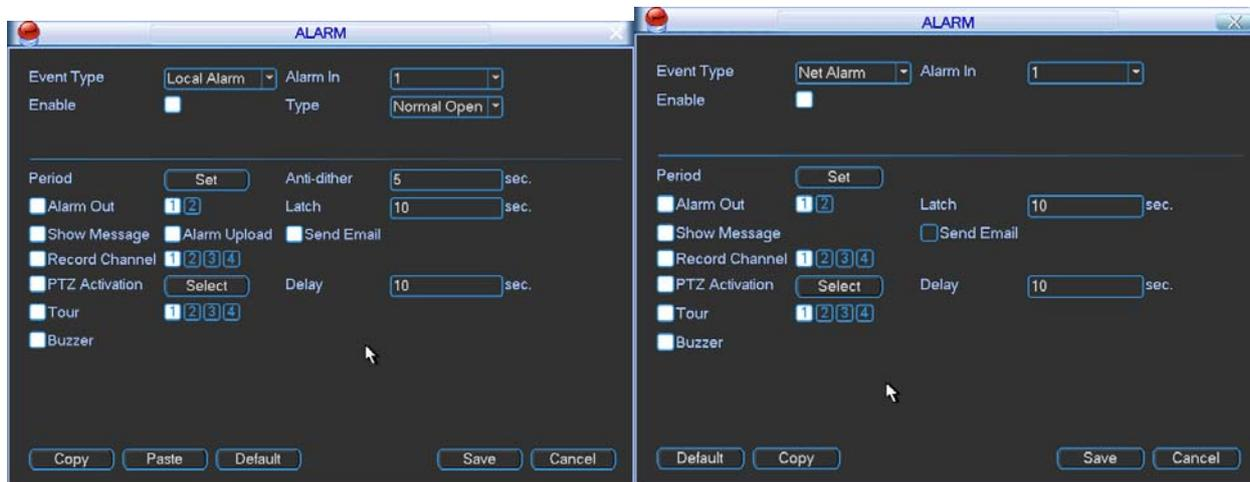
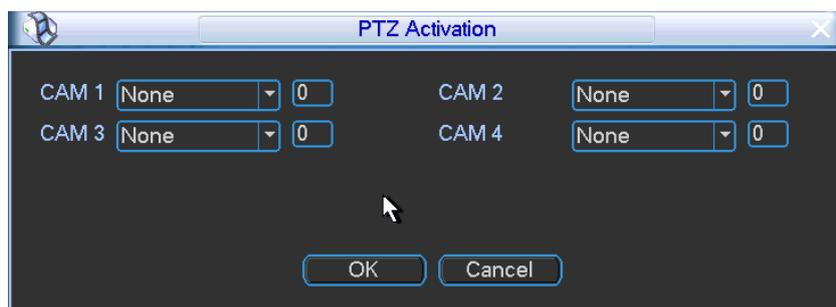

Figure 4-72
Figure 4-73
In the main menu, from Setting to Alarm, you can see alarm setup interface. See Figure 4-72.
- ✧ In Figure 4-72, click “select” button, you can see an interface is shown as in Figure 4-73. Here you can set the activation operation such as preset tour, pattern and enable.